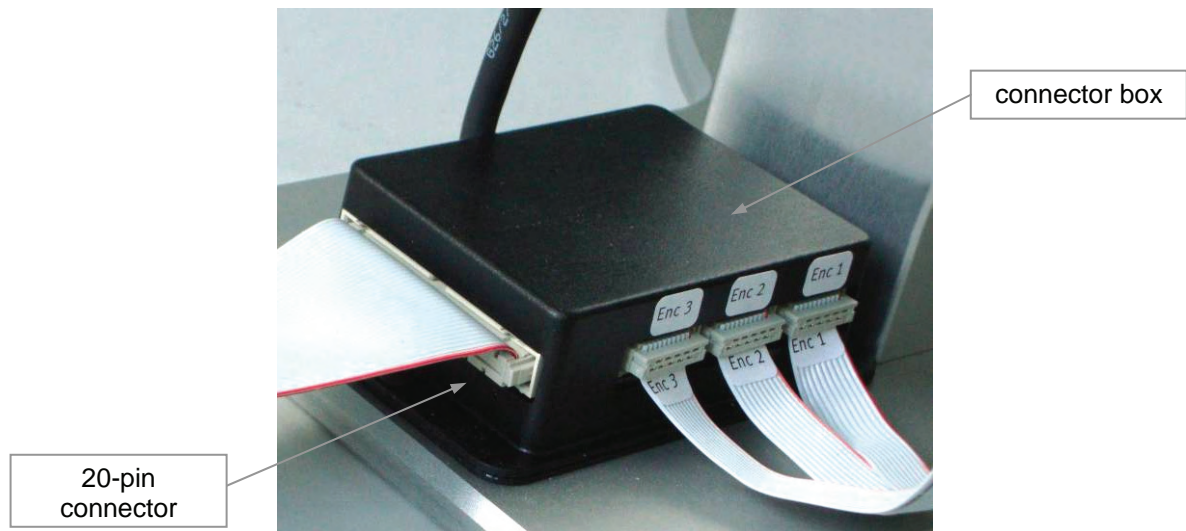

figure 1 – mounting the encoder and reset cables
1. connect the 20-pin connector to the black connector box (figure 1). This will connect all encoders, as well as the user button, to the controller unit.